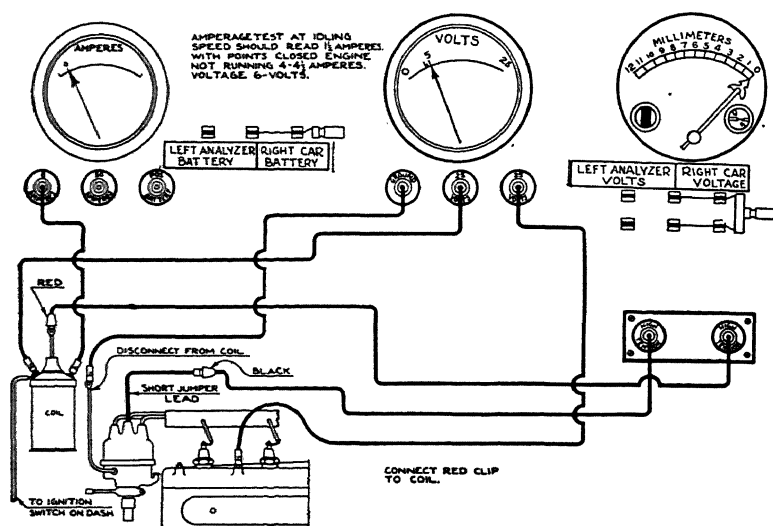

Fig. 14. General Ignition Test Equipment
**Procedure for General Ignition Test.** Connect the voltmeter test leads, Fig. 14, to 25-volt terminals on the test panel. Connect one of these leads to the battery side of the ignition coil. Connect the other test lead to the frame of the car or engine for ground. Disconnect the wire from the ignition coil on the distributor housing terminal. (In cases where electrolock is used, disconnect distributor lead at ignition coil terminal.) Connect ammeter test lead to 8-ampere terminal on test panel. (The ammeter test leads can be identified as being of the smaller over-all diameter and with large test clips in
If the ammeter, Fig. 14, reads zero, turn the engine by hand until the distributor points are closed and then note reading. If the meter reads in reverse direction (to left) reverse ammeter terminals at test panel. Reading should be 4 amperes or more. If less, check for loose connection, poor ground or trouble in the distributor circuit.